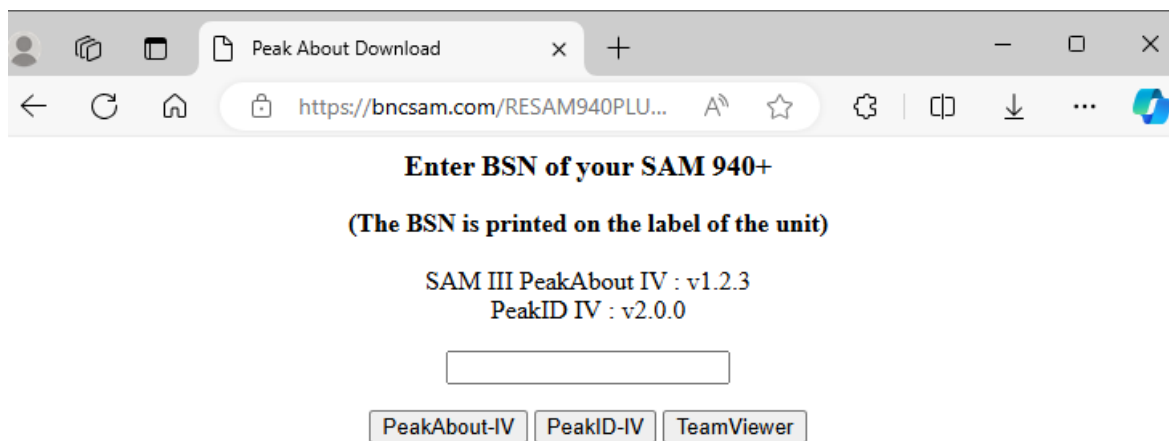

Figure 7.1.2. PeakID download page
2. Enter the serial number from the label on the detector unit, then click **PeakID IV** (Figure 7.1.2.).